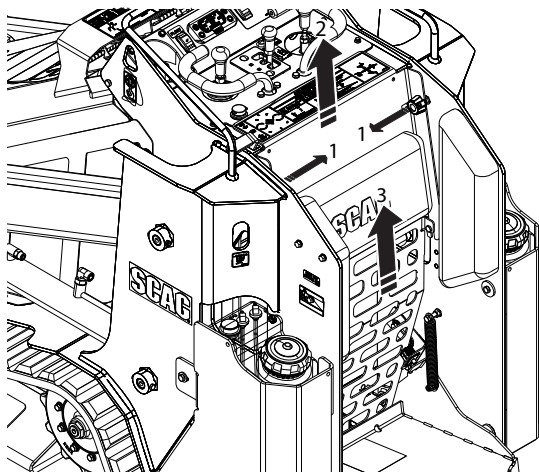

Figure 6-9. Rear Screen Removal
1. Loosen and remove the two (2) knobs securing the screen panel. See Figure 6-9.
2. Lift upward to remove the cushion bracket. See Figure 6-9.
3. Lift upward to remove the rear screen inlet panel. See Figure 6-9.